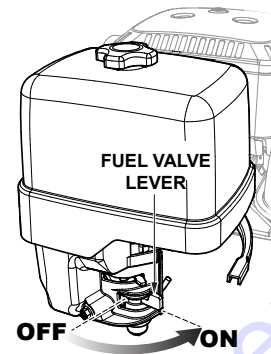

Figure 18. Engine Fuel Valve Lever (ON Position)
1. Place the engine fuel valve lever (Figure 18) to the "ON" position.